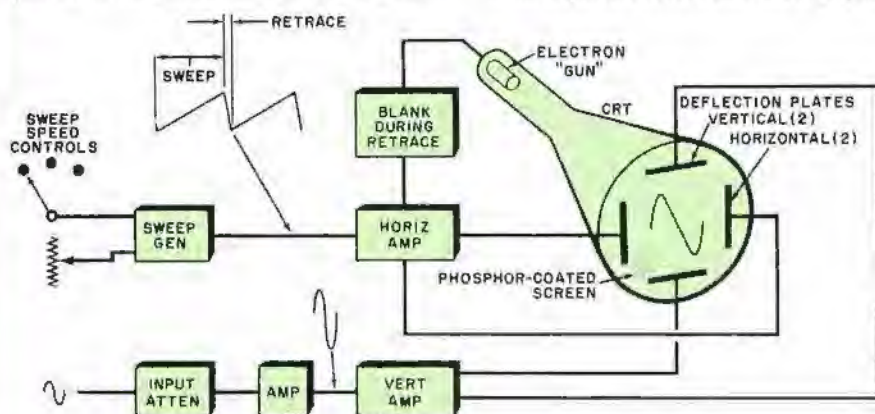

Fig. 2. Simplified diagram of how an oscilloscope works. Two sets of plates deflect the electron beam.
**Basic Scope.** A simplified diagram of an oscilloscope is shown in Fig. 2. Electron beam deflection is accomplished by controlling the charges on two sets of deflection plates within the CRT. One pair is for vertical deflection, and the other